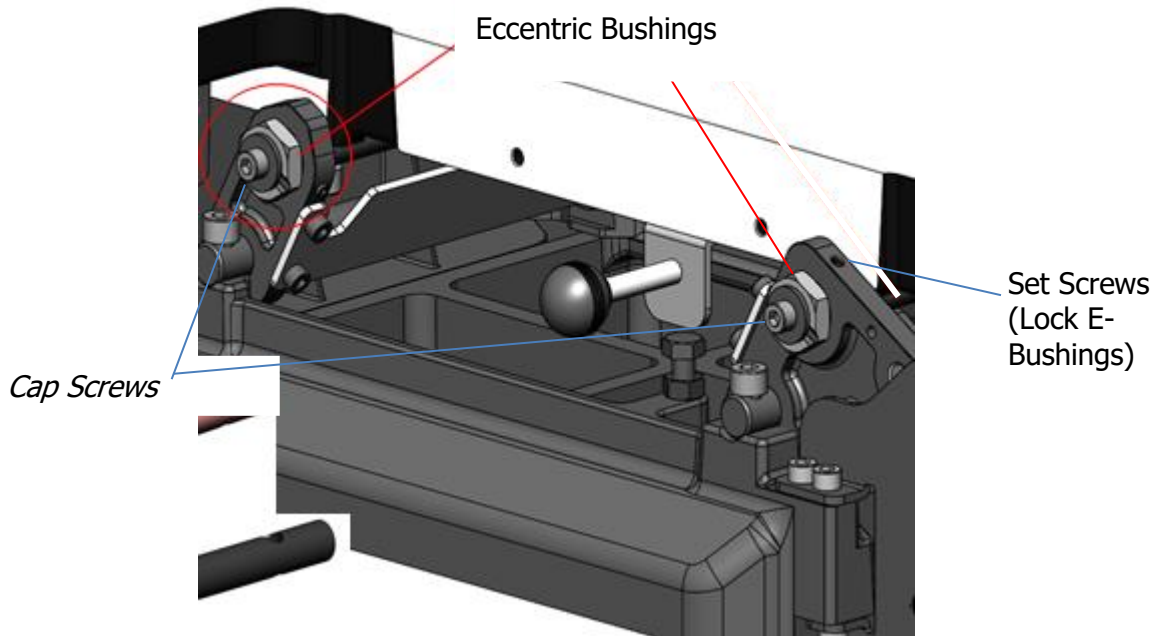
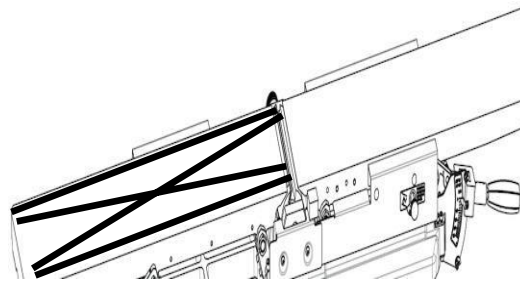

Fig 31: Eccentric Bushings, Cap Screws & Set Screws
Figure 32: Checking table
**STEP 3:** Loosen set screws as shown in FIG. 31.
**STEP 4:** Place straight edge to all the positions shown in **FIG. 32** and loosen set screw(s) adjust the eccentric bushings, as in **FIG. 31**, until straight edge slightly touches the cutterhead insert knife (at top-dead-center) at each position.
**STEP 5:** After verifying the parallelism on the outfeed table, make sure the eccentric collars are seated snugly, into its bracket, and tighten cap screws with washers and then tighten set screws into eccentric bushings (Fig. 31).